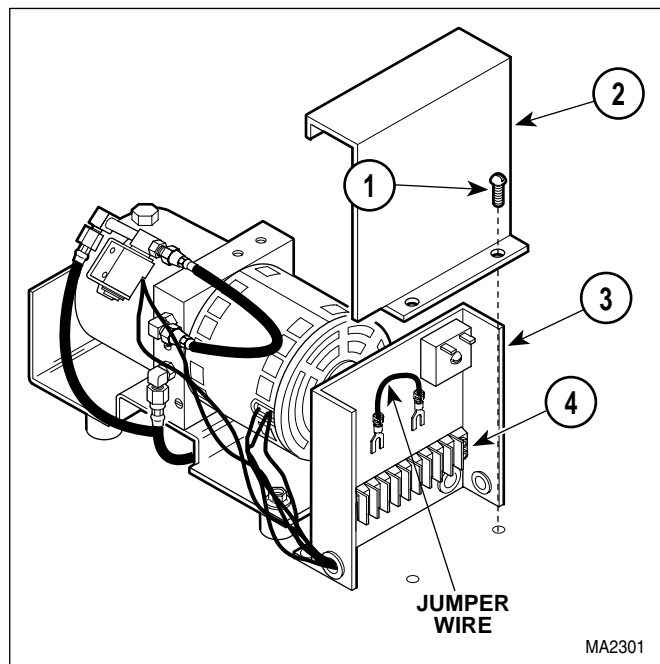

Figure 4-26. Jumper Wire Connection / Disconnection
- (1) Remove motor cover assembly (Refer to para 4.2).
- (2) Remove two screws (1, Figure 4-26) and control cover (2) from control panel (3).
- (2) Install bracket (6) and pan safety limit switch (2) as an assembly on seat weldment (7) and secure with two washers (5), lockwashers (4), and screws (3). Do not tighten screws fully.
- (3) Push pan slide assembly inward until it "locks" into its fully stowed position.
- (4) Slide bracket (6) toward rear panel of pan slide assembly until trip arm of pan safety limit switch (2) is firmly tripped by pan slide assembly. Tighten two screws (3).
- (5) Connect wire harness (1) to pan safety limit switch (2).
- (6) If installed, remove jumper wire (See Figure 4-26) from terminals of terminal block (4).
- (7) If removed, install control cover (2) on control panel (3) and secure with two screws (1).
- (8) If removed, install motor cover assembly (Refer to para 4.2).
- (9) Install upholstered seat section (Refer to steps 8 thru 10 of para 4.29B, steps 6 thru 10 of para 4.30B, or step 6 of para 4.30.1B).